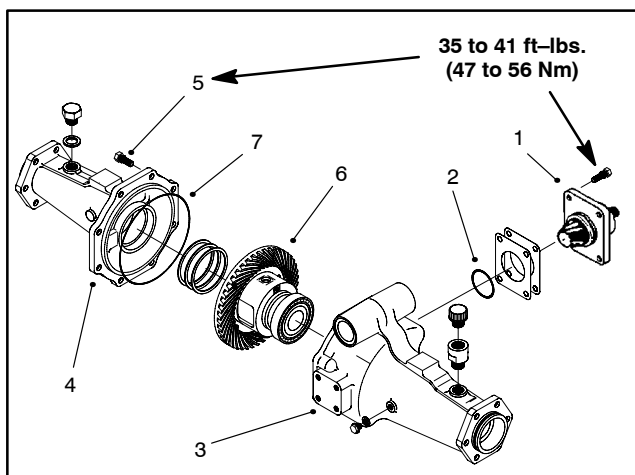

Figure 22
3. Remove input shaft/pinion gear assembly, shims, and O-ring from the axle support (Fig. 22).